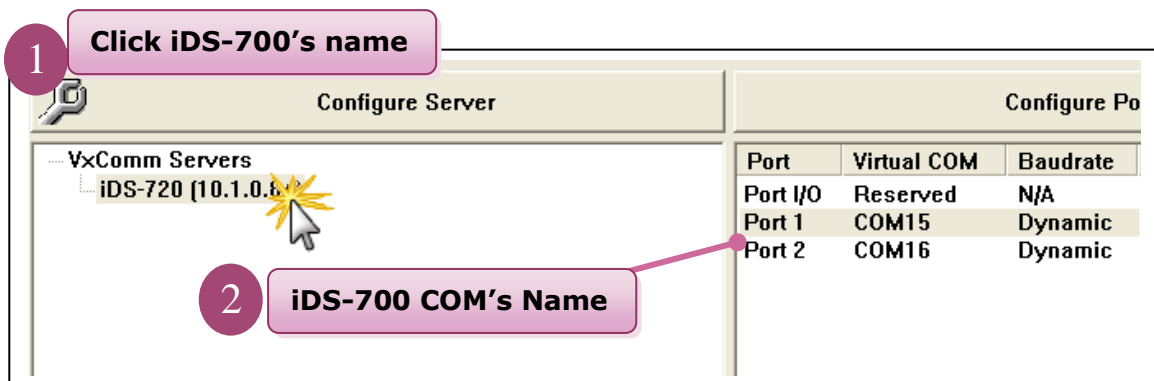

Fig 4-4
3. Click on **iDS-700's** name and check the virtual COM port mappings on the PC, please refer to Fig 4-4.